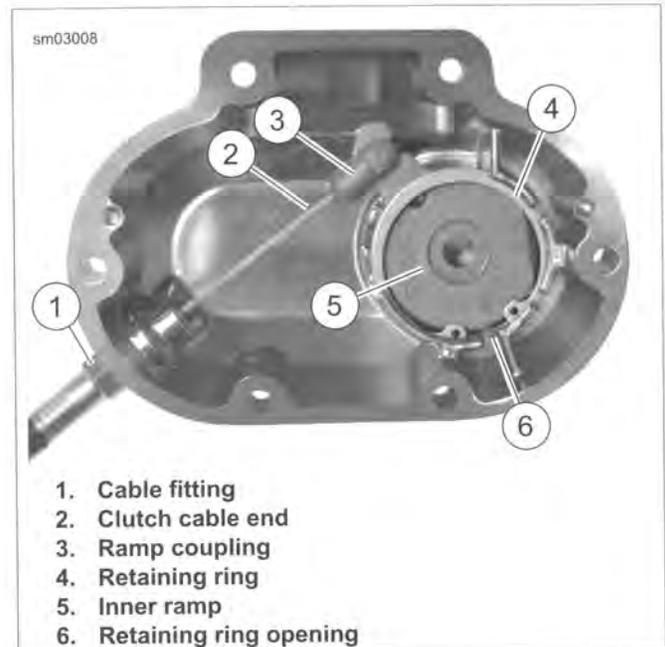
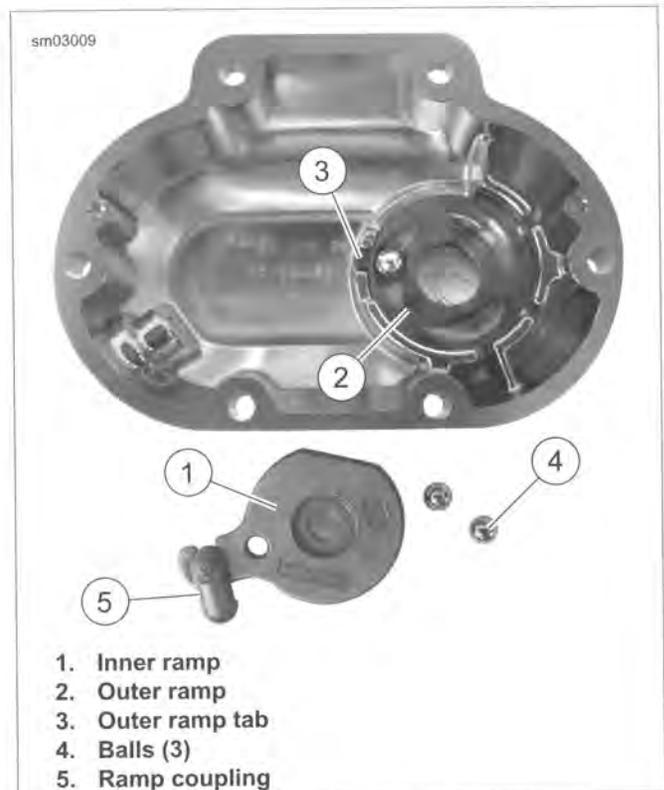

Figure 6-4. Clutch Cable Connection
Figure 6-5. Coupling and Ramp Assembly
6. See Figure 6-4. Remove retaining ring (4). Lift inner ramp (5) and ramp coupling (3) out of clutch release cover. Disconnect clutch cable end (2) from the ramp coupling (3).
7. Remove coupling (3) from inner ramp.
8. See Figure 6-5. Remove balls (4) and outer ramp (2).
1. See Figure 6-4. Apply a drop of LOCTITE 243 MEDIUM STRENGTH THREADLOCKER AND SEALANT (blue) to the clutch cable fitting (1). Install in clutch release cover. Do not tighten at this time.
4. See Figure 6-4. Connect cable end to ramp coupling (3). Install coupling on inner ramp (5). Place inner ramp and coupling in position in clutch release cover.